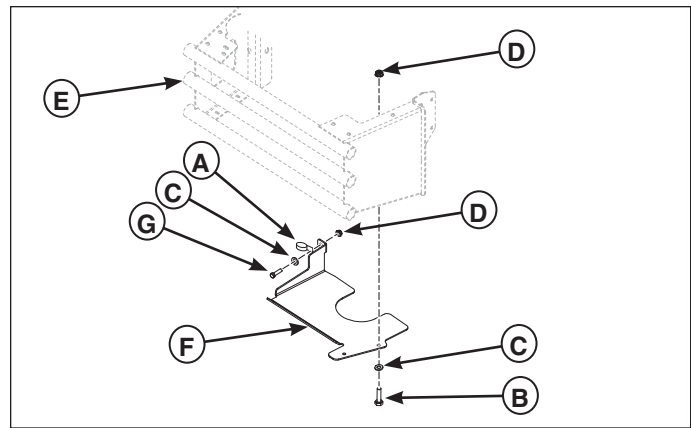
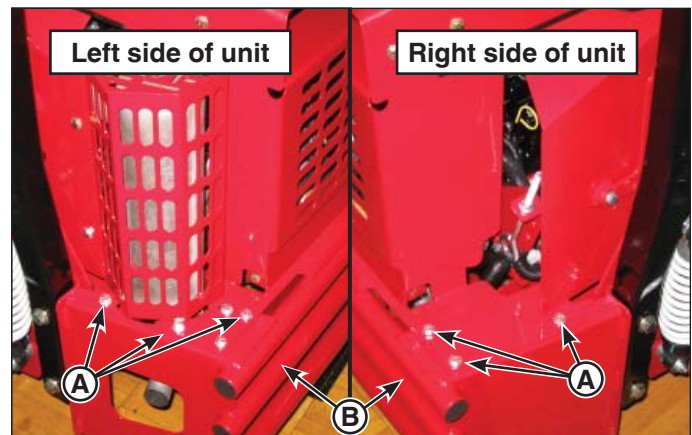

Figure 5. Removing the Lower Belt Guard
Figure 6. Removing the Hood Assembly
2. Reinstall the lower belt guard (**F, Figure 5**) to the bumper (**E**) and loosely install with two (2) 5/16-18 X 1" bolts (**B**), 5/16 SAE washers (**C**) and new 5/16-18 nylon flange nuts (**D**).
3. Install the 5/16-18 X 1-1/4" bolt (**G, Figure 5**), 5/16 SAE washer (**C**), hose clamp and loosely install with a new 5/16-18 nylon flange nut (**D**).
5. Tighten the 5/16-18 X 1-1/4" bolt (**G, Figure 5**), 5/16 SAE washer (**C**), hose clamp and new 5/16-18 nylon flange nut (**D**).
6. Tighten the two (2) 5/16-18 X 1" bolts (**B**), 5/16 SAE washers (**C**) and new 5/16-18 nylon flange nuts (**D**) that secure the lower belt guard (**F**) to the bumper (**E**).
9. Secure the hood assembly to the bumper using six (6) 5/16-18 X 3/4 bolts, 5/16 gr. 9 washers and new 5/16-18 nylon flange nuts (**A, Figure 6**).